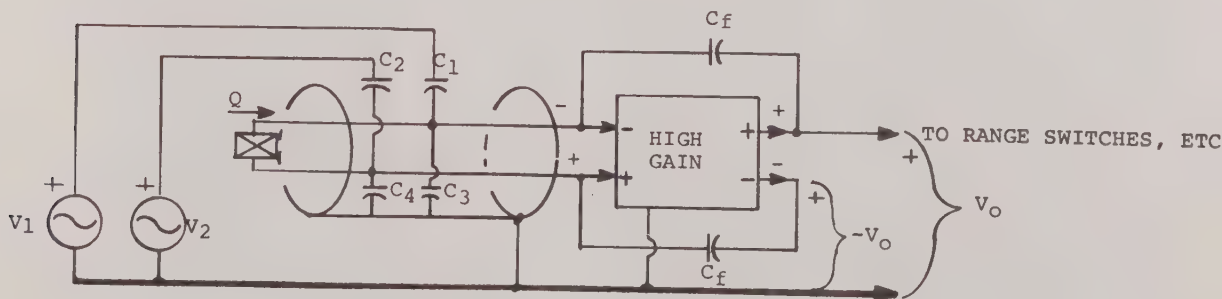

FIG. 5 EQUIVALENT CIRCUIT FOR DIFFERENTIAL CHARGE CONVERTER
The differential charge converter is schematically shown in Fig. 5, along with other input parameters. It can be shown that the output voltage V_o is:
The signal-frequency gain of the charge converter is not dependent on the relative values of C_3 and C_4 if the gain of the differential amplifier is very high. However, the ability of the charge converter to reject power frequency signals due to the pickup through the stray capacitances C_1 and C_2 is critically dependent upon the external circuit parameters. In general, the second and third terms of Eq. (6) come close to cancelling each other only if the lines are well-balanced ($C_3 \approx C_4$), the stray capacitances are very nearly equal ($C_1 \approx C_2$) and the hum sources are equal or are the same source ($V_1 \approx V_2$). The analysis leading to Eq. (6) is based on the assumption that the differential amplifier in Fig. 5 itself has perfect common mode rejection.